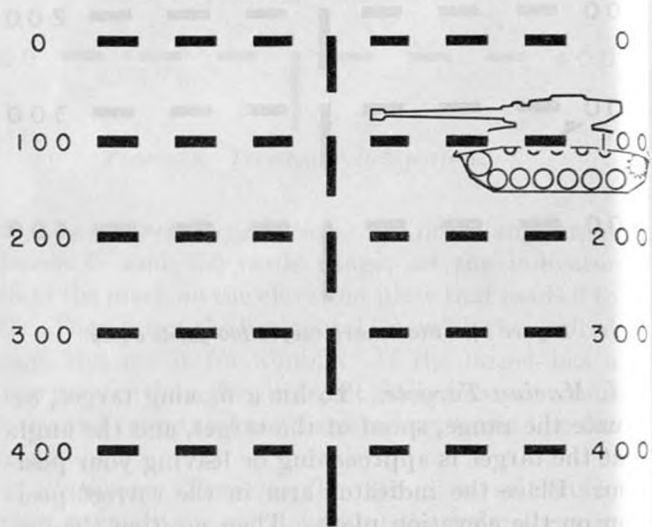

Figure 25. Target, 100 yards away, moving 30 m. p. h. from right to left.
- (1) *Targets moving directly across the front.* Estimate the range and set the indicator arm at the correct position on the range scale plate. Determine the number of leads from the estimated speed of the target. Position the target in the sight so that the proper lead graduation on the selected horizontal range line is on the center of mass of the target. The vertical centerline should be in front of the center of the target (figs. 25 and 26).